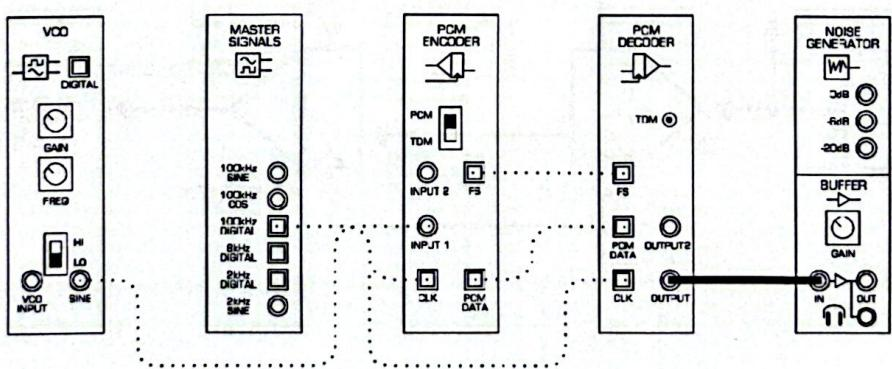

Figure 7
19. Add the Buffer module to the set-up as shown in Figure 7 below leaving the scope's connections as they are.